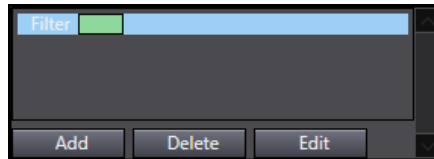

Figure 8-278 Color Matching Filters Pane
1. Right-click and drag in the image on the right to return the average color from the resulting rectangular region. For example, the Color in Figure 8-278 was created by clicking and dragging within one of the green-tinted bread slices of the corresponding image.